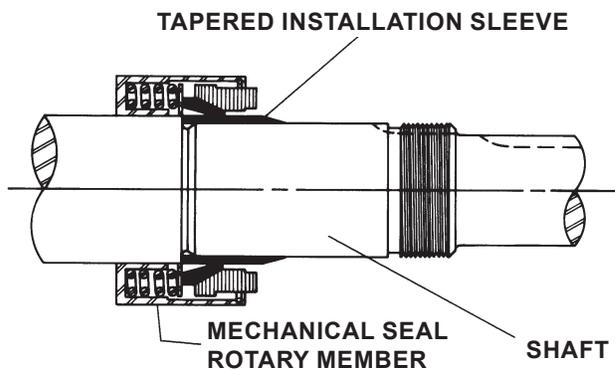

FIGURE 12
4. Start rotary member on shaft and ease over tapered sleeve (See **Figure 12.**)